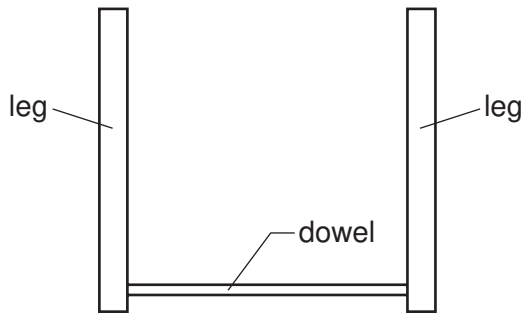

Fig. 11
- (ii) Fig. 11 shows the legs and dowel glued together. Add sketches to Fig. 11 to show